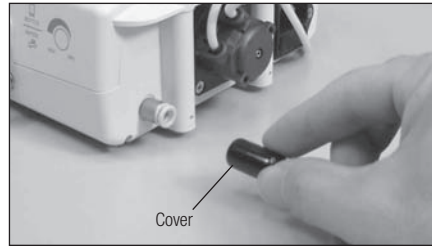

Fig. 2
- 1) Remove the Cover from the Connector for Water. (Fig. 2)